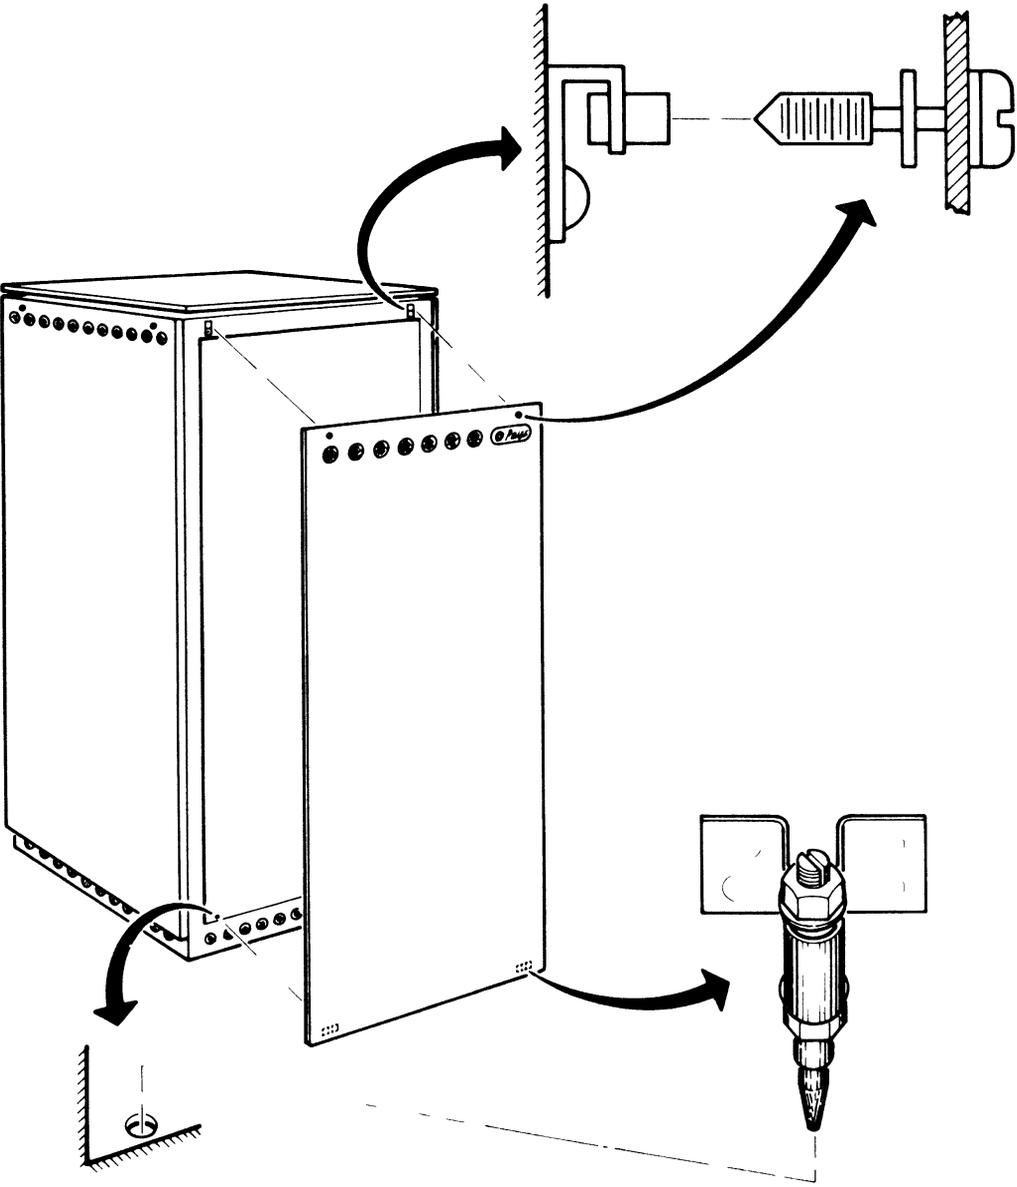

Fig. 2 – Removal of Front and Side Panels
3.09 The front and side panels are removed by turning the two captive screws (Fig. 2), at the top of the panel, anti clockwise so the panel can be tilted slightly away from the cabinet. Grasp the panel by the edge trim and lift it vertically to disengage the two clips holding the bottom edge of the panel to the frame.